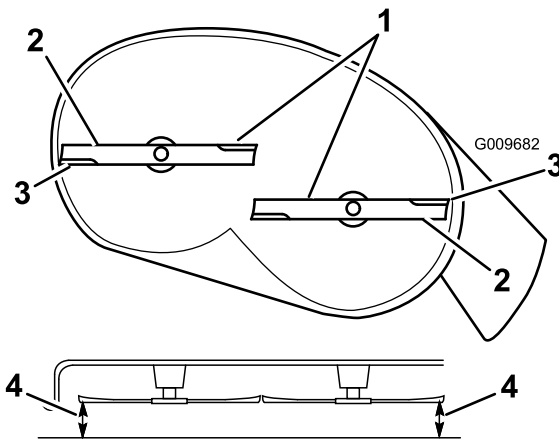

Figure 50
- Carefully rotate the blade(s) so that they are all side to side (Figure 50).
- Measure between the outside cutting edges and the flat surface (Figure 50). If both measurements are not within 5 mm (3/16 inch), an adjustment is required; continue with this procedure.